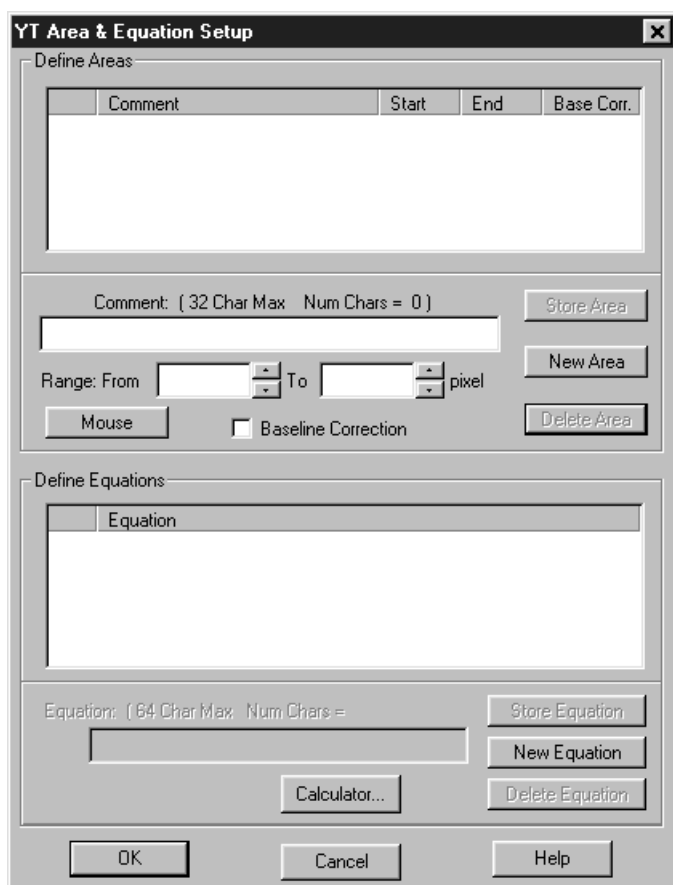

Figure 125. Y:T Area and Equation Setup dialog box
2. Select **Y:T Analysis** on the **Acquisition** menu. This will open the **Y:T Area and Equation Setup** dialog box (Figure 125).